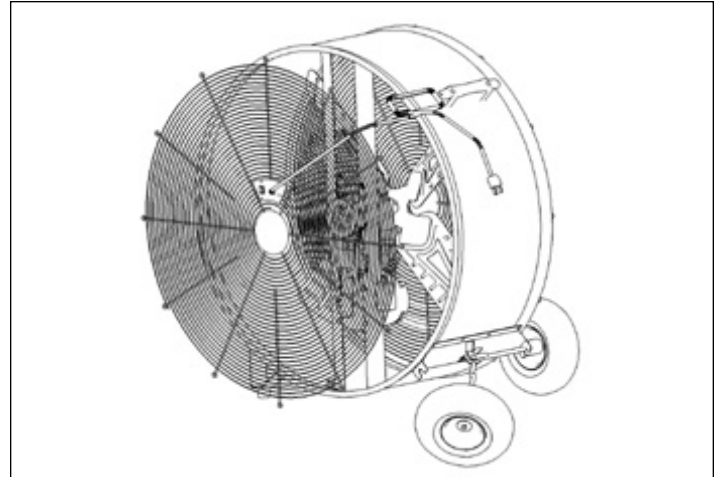

figure 1
1. Remove screws from Rear Guard and tilt wheel in. Disconnect Power Switch wiring (figure 1).